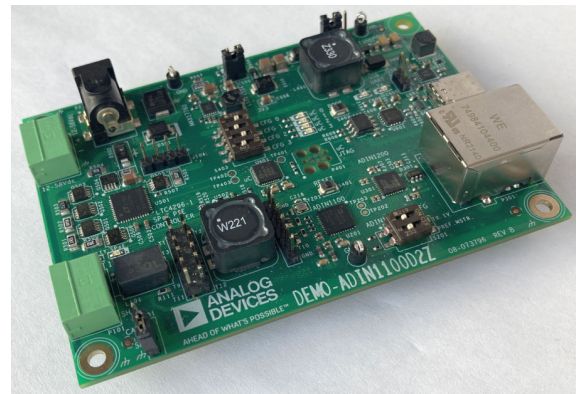

Figure 9. Modification for SPOE Class 15/APL Class 3—Board with Assembled Headers
2. Add and solder a set of headers to the J104, J105, and J106 positions on top of the board, as shown in Figure 9. Use standard 2.54 mm/0.1 in pitch headers, 4-pin single row for J104, 6-pin single row for J106, and 12-pin double row for position J105 (or 2 × 6-pin single row if that is what you have).